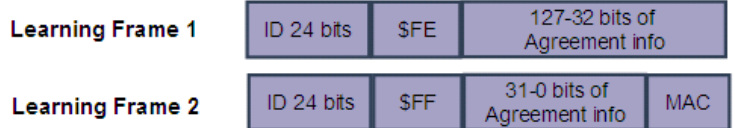

Figure 4. Learning Frames
- Inside the integrated encoder, this pseudo random data is scrambled and two frames are generated. This information is called agreement info. The frames are depicted in Figure 4.